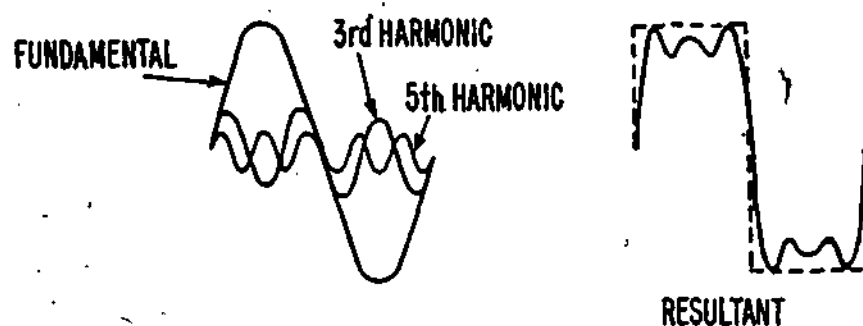

Figure 28
26. Figure 28 shows the effect of combining a typical fundamental frequency with its third and fifth harmonics.